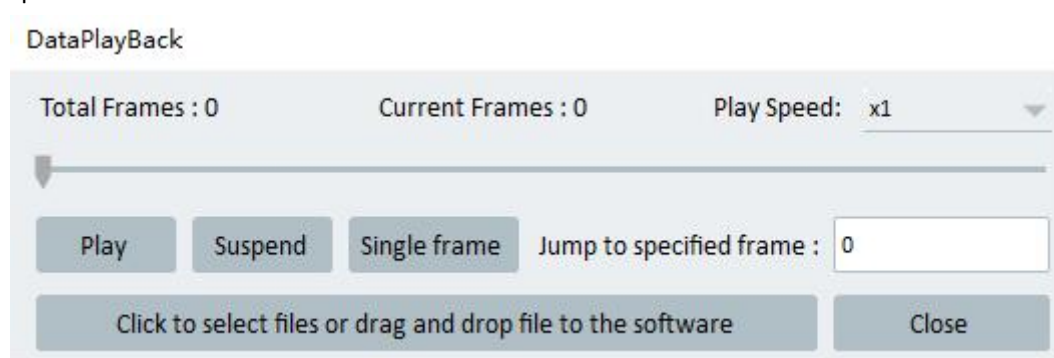

Figure 2-11 Data Playback Window
2. Data Playback facilitates data analysis. Click Data Playback to open the window shown in Figure 2-11. Click the button in the lower-left corner and select a *_rawData.bin file; only this file type is supported. Click Play to start playback. Total Frames is the total number of frames in the source data, Current Frames is the current frame, and Play Speed is the playback speed. Select a speed from the options on the right. The progress bar indicates playback progress. Click Suspend to pause playback. Click Single Frame to advance one frame at a time. To view a specific frame, enter its number in the field to the right of Jump to Specified Frame and press Enter.